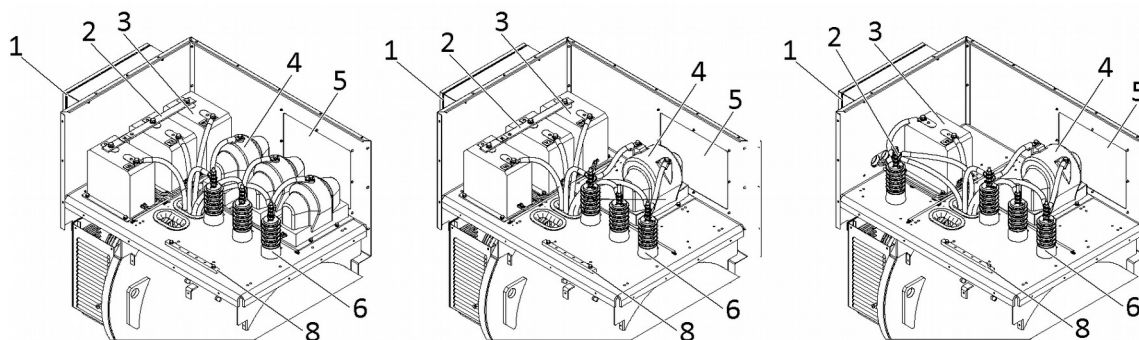
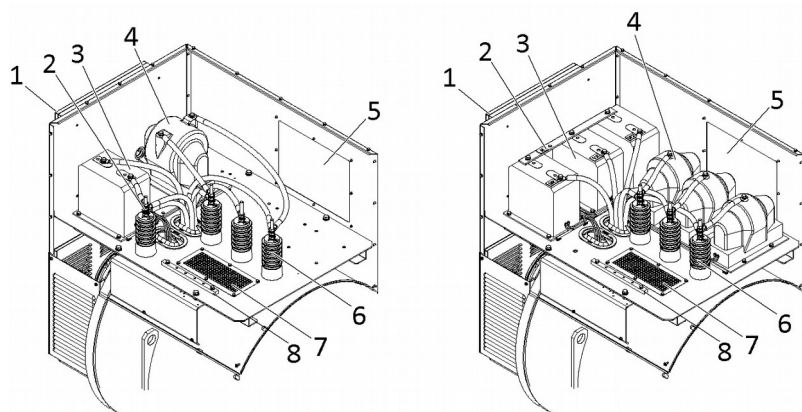

Figure 15- ECO 43 terminals box
Figure 16- ECO 46 terminals box
Connect the alternator to the utility, making reference to Figure 16- and Figure 15- .
- 3- Current sensor (TA)
- 4- Voltage sensor (TV)
- 6- Phases connection terminals (U-V-W from left to right in Figure 16- and Figure 15-)